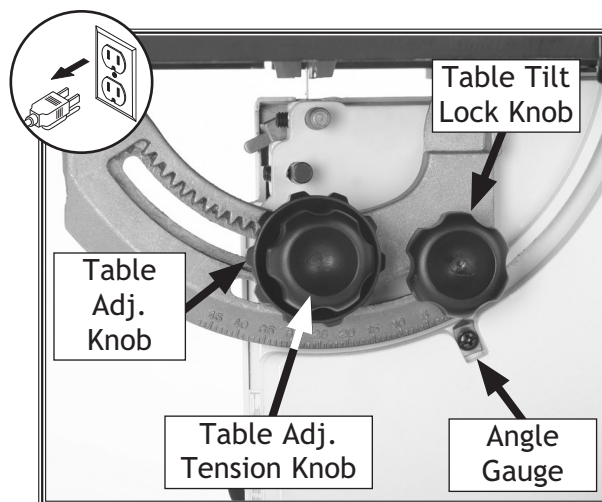

Figure 42. Table controls.
2. Loosen the table tilt lock knob and the table adjustment tension knob shown in **Figure 42**.